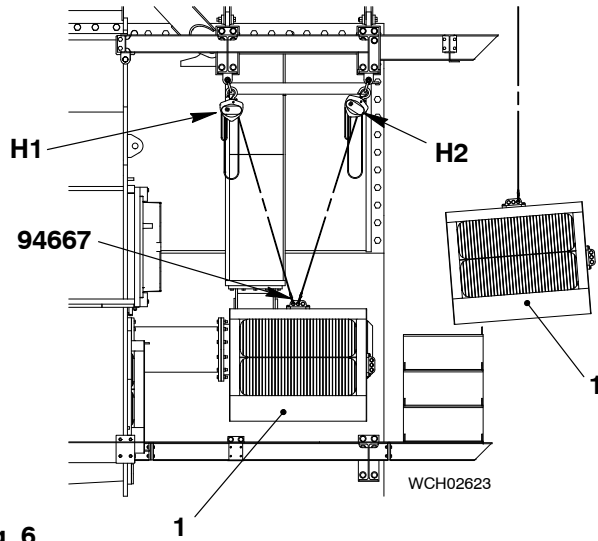

Fig. 6
- 9) Attach the chain block (H2, Fig. 6) to the tool (94667).
- 12) Lower the water separator (1) on to an applicable surface.
- 13) Remove the chain blocks (H1, H2) from the tool (94667) on the water separator (1).
- 15) Operate the engine room crane to move the water separator (1) to an applicable area.